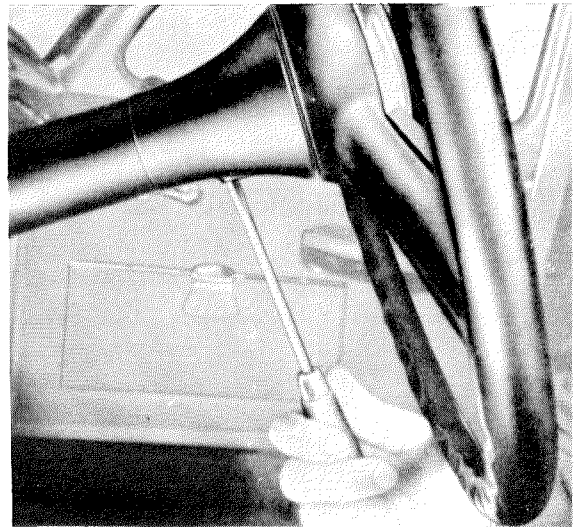

Fig. 01 — 2/2
8. Unscrew the grub screw in the steering column jacket (see Fig. 01 — 2/2). Then pull out the steering tube from the steering coupling.